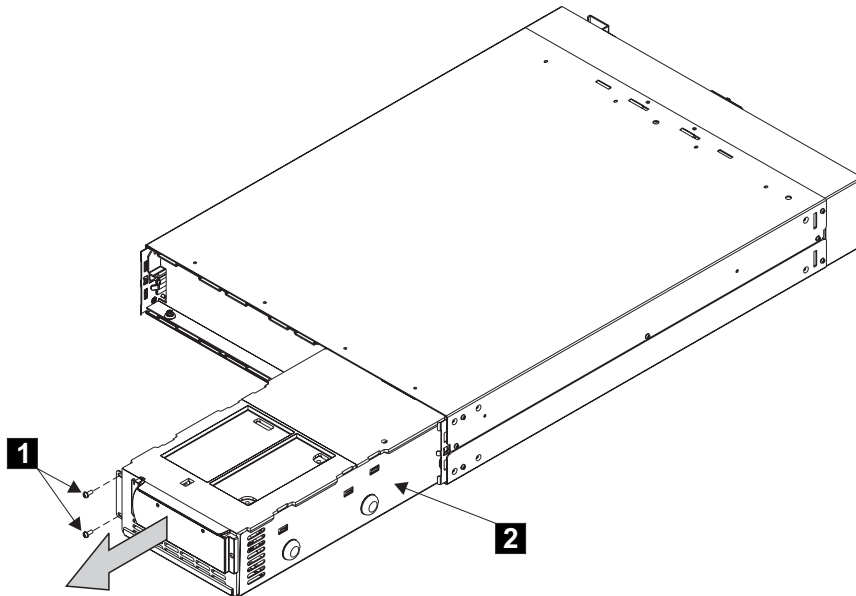

Figure 166. Removing the 2145 UPS electronics assembly
- a. Remove the two screws **1** (see Figure 166).